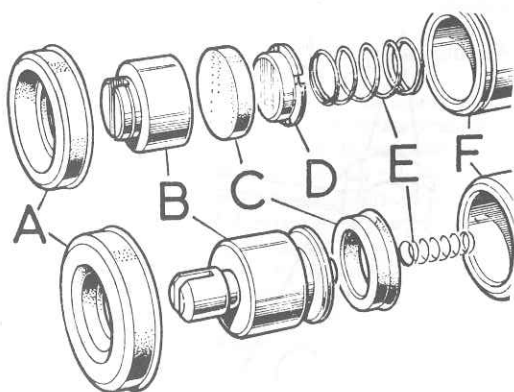
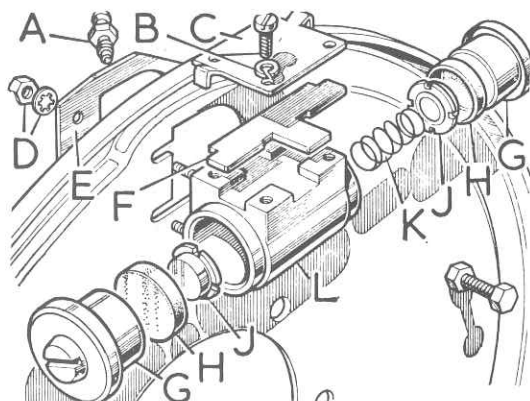

Fig. 9.19. The two types of piston and seals fitted in the front wheel cylinders of the LWB models
Fig. 9.20. Wheel cylinder assembly fitted to the rear brakes of LWB models
- 7 Referring to Fig. 9.19 (front cylinder) or Fig. 9.20 (rear cylinder) as appropriate, remove the pistons, seals and spring from the wheel cylinder. Note that the rear cylinder fitted to the Series IIA model is exactly the same as that fitted to the SWB model (see Section 7, Fig. 9.18).